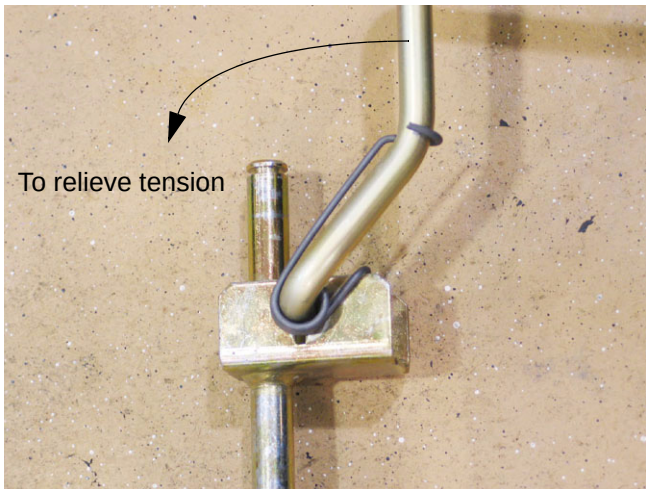

Figure 7.9
- 7.9. Rotate the lever to relieve tension from the torsion spring, and align the coined "ears" on the lever with the slots that they pass through in the cross shaft assembly. See Figure 7.9.